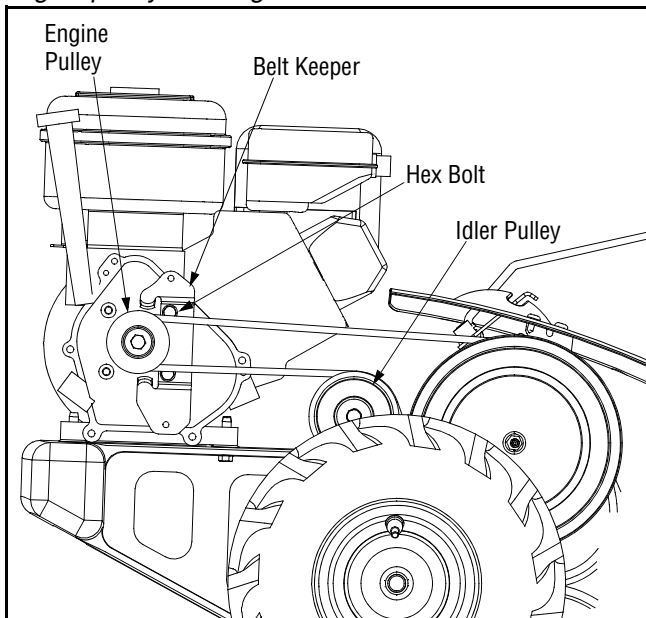

Figure 10
- Remove the belt keeper assembly located behind the engine pulley by removing two hex bolts and lock washers. See Figure 10.
NOTE: Upon reassembly, make certain the belt is routed over the idler pulley and inside of belt keepers by engine pulley. See Figure 10.